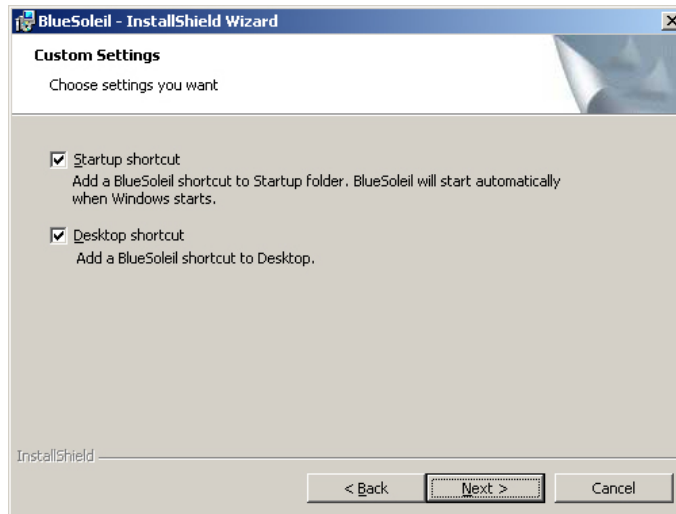

Figure 7-33: Bluetooth Driver Setup Options
Step 5: The **Custom Settings** screen in **Figure 7-33** appears next.
Step 6: Select the required installation configuration in **Figure 7-33** and click **NEXT** to continue.